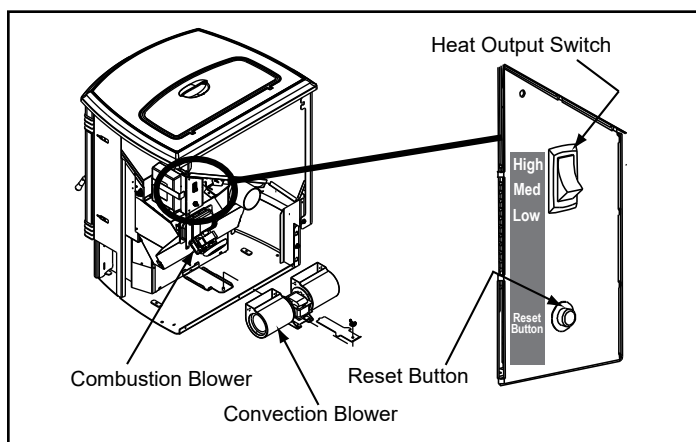
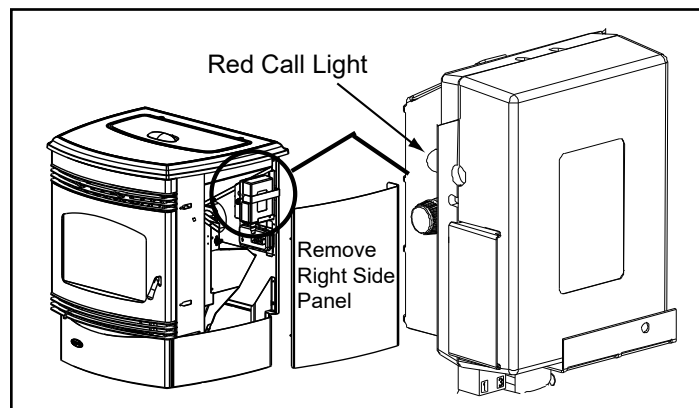

Figure 10.1
Figure 10.2
2. **Heat Output Controls:** This appliance is equipped with a heat output control switch that has three settings or burn rates; low, medium and high. The appliance will turn on and off as the thermostat demands. When the thermostat calls for heat, the appliance will start up at the burn rate for which it is set. If the appliance is set at one of the lower settings, it will run quieter but take longer to heat up an area than if it were set at a higher burn rate. Regardless of the burn rate, when the area is warm enough to satisfy the thermostat, the appliance will shut off (**Figure 10.1**).
3. Locate the heat output control switch mounted on the back of the appliance in the upper right corner (**Figure 10.1**). Turn it to the "high" setting by pushing the top of the control switch in and then adjust the thermostat to its highest setting. Remove the right side panel and the red call light located to the left of the control box will be on (**Figure 10.2**). This indicates the thermostat is calling for heat.
3. Occasionally the appliance may run out of fuel and shut itself down. When this happens, the red call light will be on (**Figure 10.2**). To restart it, fill the hopper and press the reset button (**Figure 10.1**). When you press the reset button the red call light will go out. Release the button and the light will come back on. You should see a fire shortly. If not, follow Section 2H - **Starting Your First Fire**.